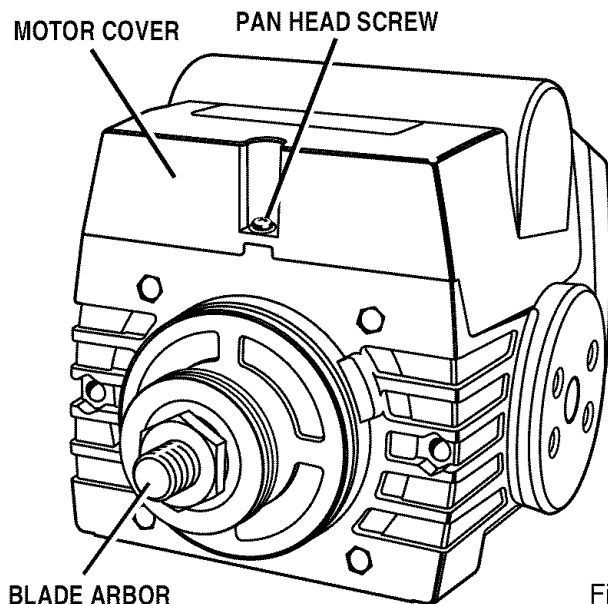

Fig. 2
See Figures 2 - 4.
- Remove the pan head screw above the blade arbor on the motor cover. Lift motor cover to expose switch. See Figure 2.